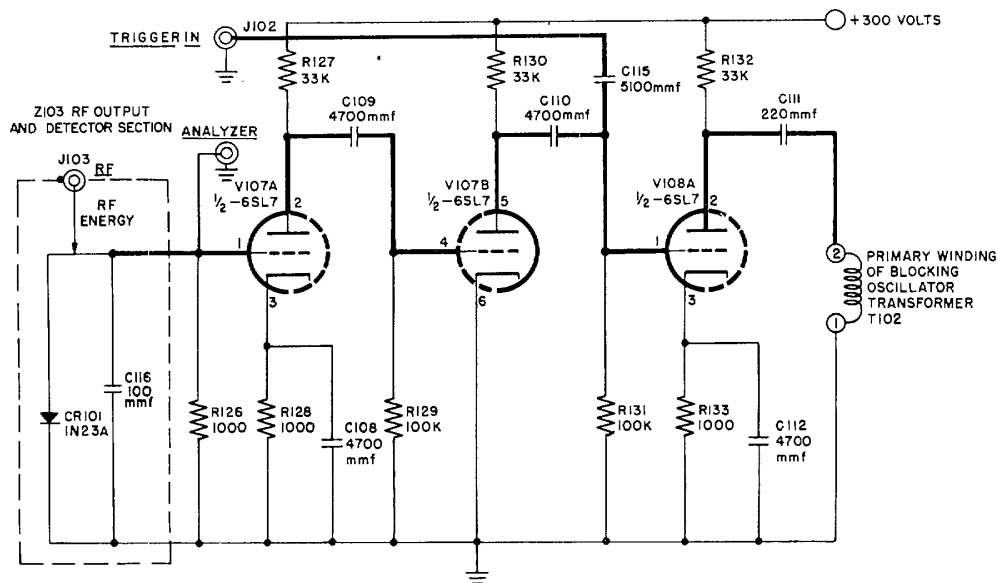

Figure 2-17. Trigger-Detector and Amplifier Circuit, Simplified Schematic
b. TRIGGER DETECTOR AND AMPLIFIER CIRCUIT. (See figure 2-17.)